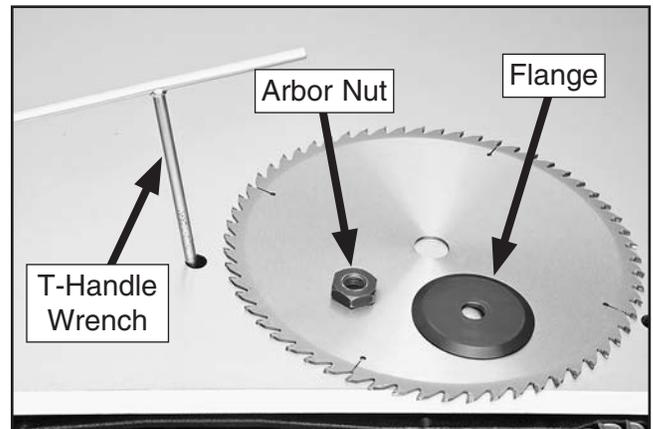

Figure 92. Main blade arbor nut and flange.
6. While holding the T-handle wrench with one hand, rotate the arbor nut clockwise until you can remove it and the flange (see **Figure 92**).